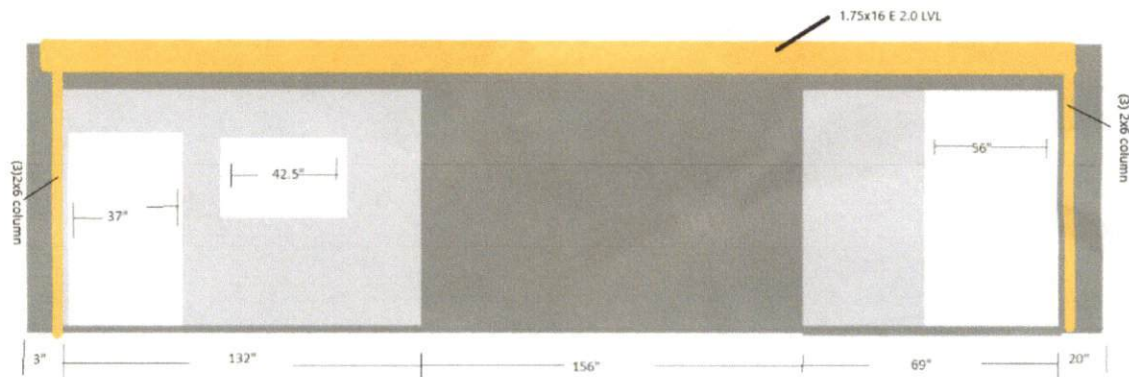

Figure 2
Use (2)1.75"x18" LVL beam 2.0 E or higher, provide 4.5" seating over columns, connect the 2 ply according to the schedule attached Fig 3. Beam will be seated on each end over the columns. Use (3)2x6 studs for columns on each end, as showing on Fig 2. Nail column studs together at 24" off center with 2 nails, 16d box sinkers nails.